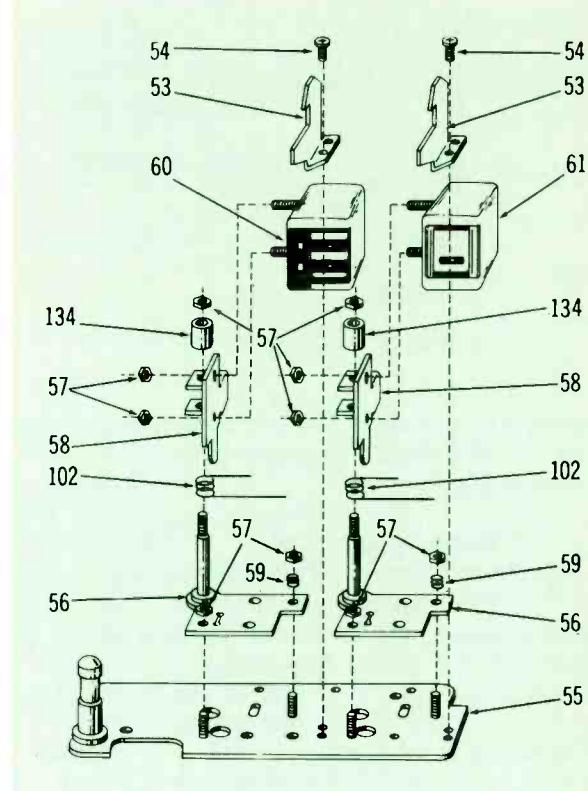

Fig. 9 Exploded view of a typical head assembly.
head should be inspected for excessive wear. Fig. 9 shows an exploded view of a typical head assembly. The tape guides (53) are secured by mounting screws (54); check the guides during inspection, and tighten the screws if they have worked loose. In this example, two heads are employed: a combination record-play erase head (60) and a play head (61). The lower parts are associated with head azimuth and height adjustments, which will be explained later.